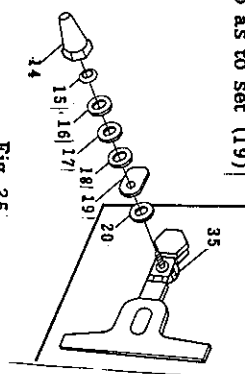

Fig. 35
- 2: (16) BRASS WASHER is generally used in the factory adjustment. Assemble the unit intact regardless of whether the brass washer is attached or not.
- 3: Note the thickness of (17), (18) and (20) ALUMINIUM WASHERS differs from each other.
Attach (14) through (20) as shown in Fig. 35.